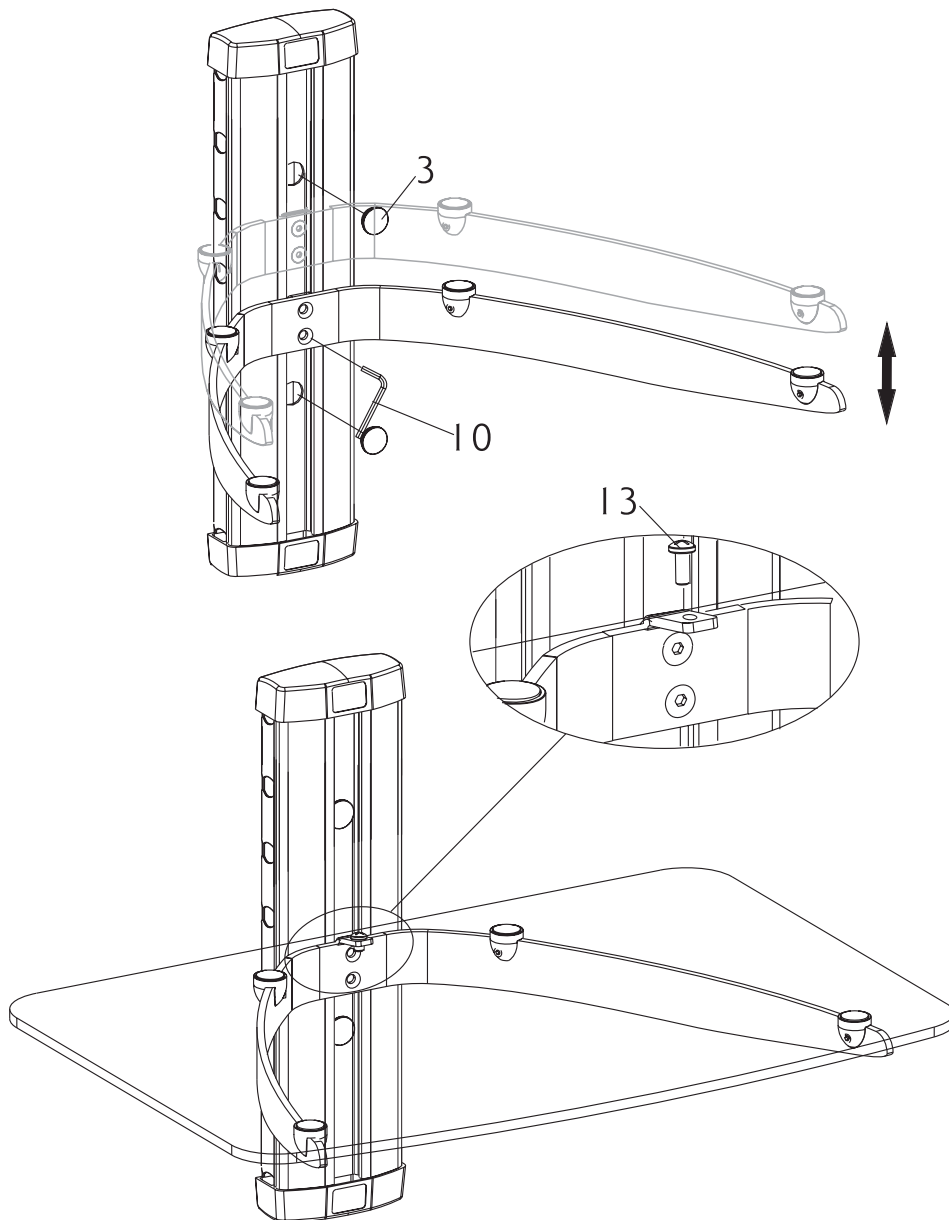

Fig. 5
Step 4: Position and attaching the shelves (Fig.5)